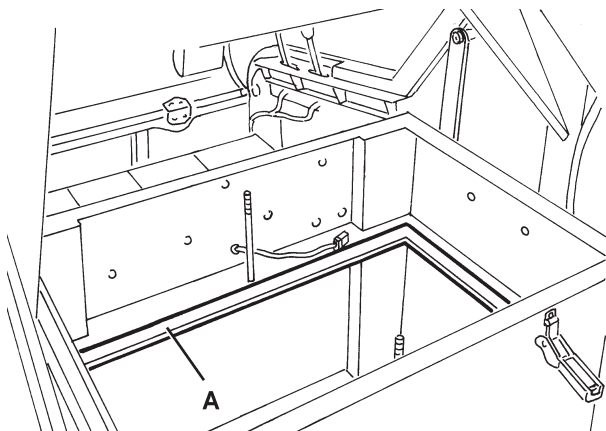

Figure 15
19. If necessary, clean the filter compartment rubber gasket (A, Fig. 15) along its perimeter and check it for integrity. If necessary, replace it.